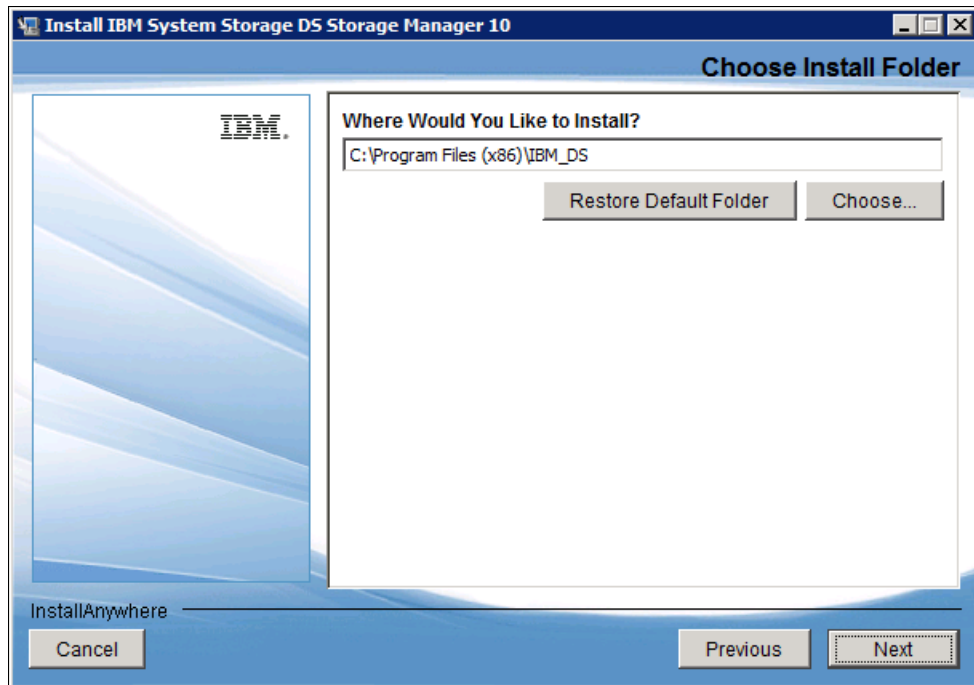

Figure 4-6 IBM DS Storage Manager Choose Install Folder
6. Specify the directory where you want to install, as shown in Figure 4-6. The default is C:\Program Files (x86)\IBM\_DS.